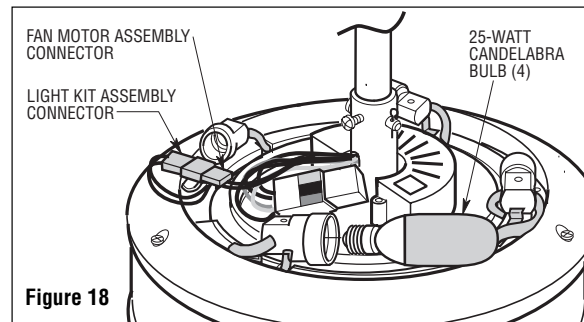

Figure 18
Your SR600 Fan/Light remote control (Figure 18) has full control of your fan speed, air flow direction and light intensity.
4. Securely connect the light kit assembly connector to the motor assembly connector (Figure 18).
5. Screw the four 25-watt candelabra base bulbs (supplied) into the light kit assembly sockets (Figure 18).